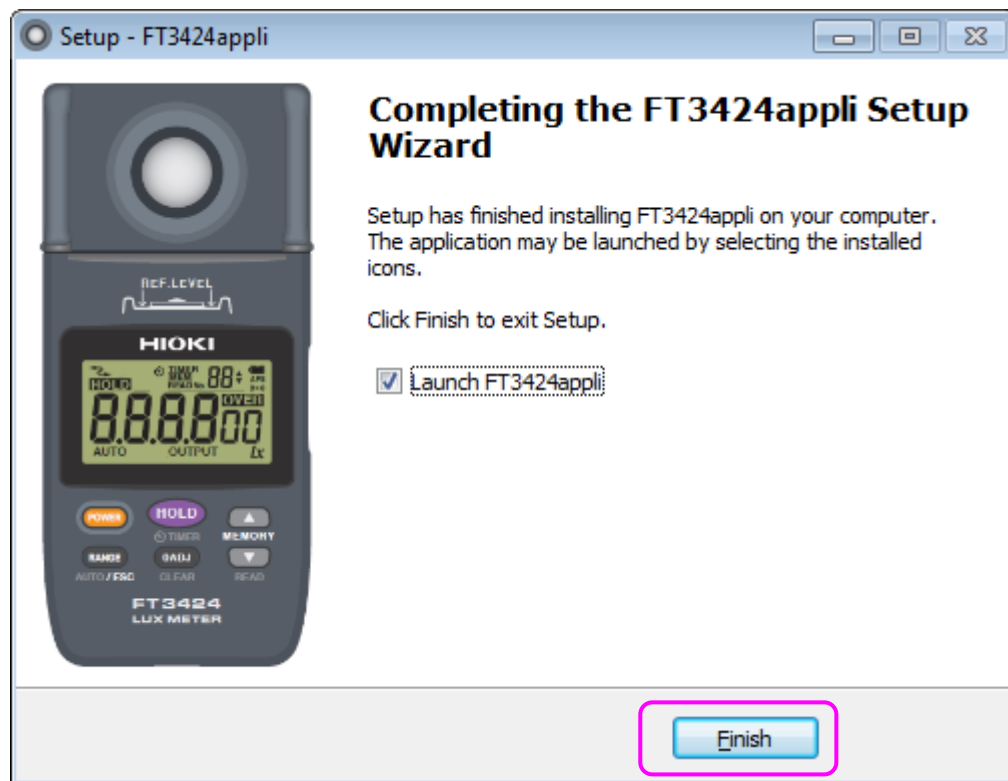

Fig.2-10
Step7: Click [Finish] to finish the install. (Fig.2-10)